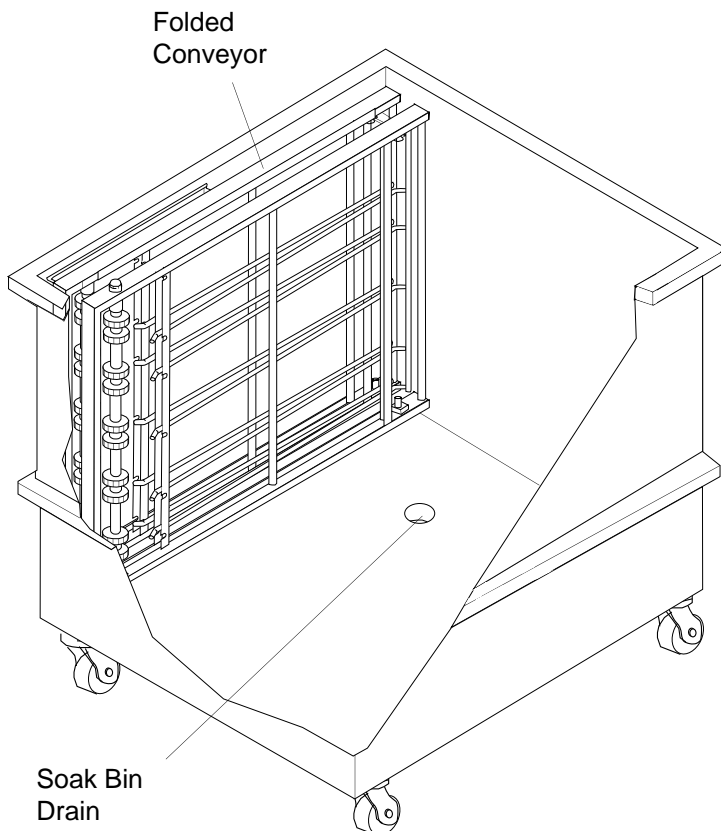

Figure 4-12.
a. Fold the conveyor and load it into the end of the soak bin as shown in Figure 4-12.